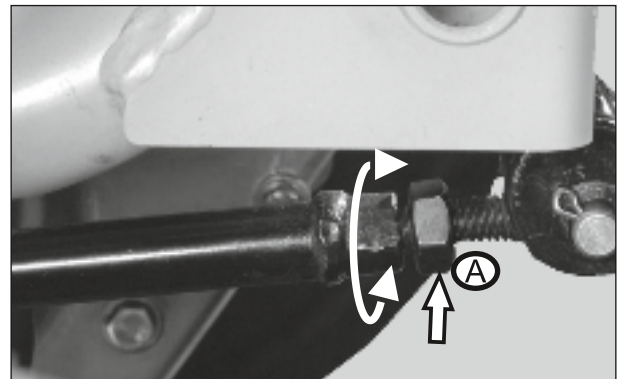

Fig. 2.113
- Hold the Tube Comp, Hand starter and loosen Hex nut M10 'A'.(Fig. 2.113)
- Tighten the eye bolt RH to reduce play. Loosen the eye bolt to increase play. (Fig. 2.113)
- Similarly adjust the play at eye bolt LH near engine end.(Fig.2.113)